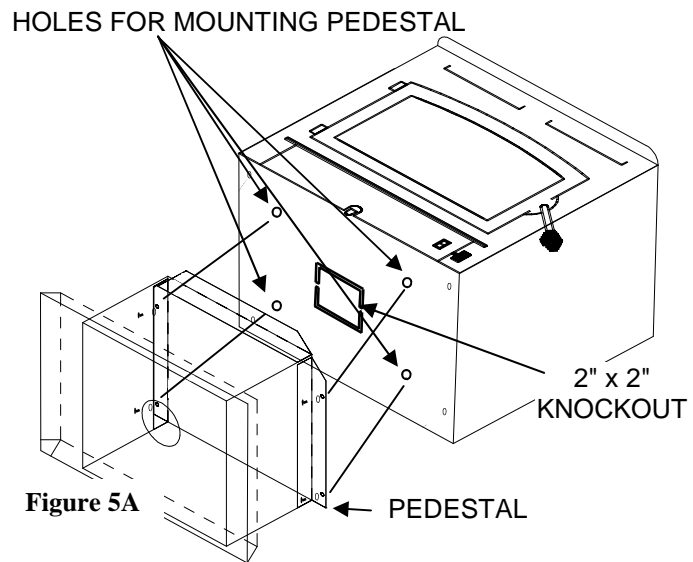

Figure 5A
6. **(Pedestal Kit):** If pedestal kit is being used (**and outside air is required see below, Out Side Air Installation**). Open freestanding kit and obtain stand. Place stand against bottom of heater (angle side to heater). Center stand front to rear and also center stand left and Right. Mark screw locations on bottom of stove through outer holes of stand mounting angles. Set stand aside and drill four 7/32" holes in heater bottom. Before attaching heater to stand, take a large flat screwdriver or pliers and remove the 2" x 2" knockout on bottom of unit. (See Figure 5A). Then mount stand to bottom of heater with screws provided. (See Figure 5A).
7. Obtain four (4) 3/16" self-tapping screws and secure stand to heater.